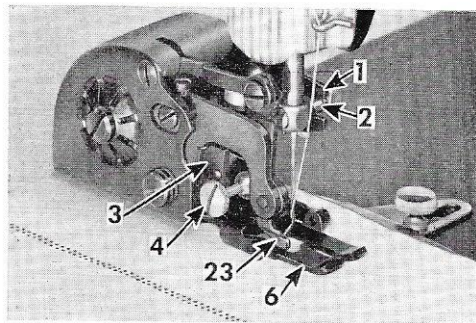

Fig. 2
3. Fasten attachment to presser bar by means of screw (4, Fig. 2), at the same time placing fork (1), astride needle clamp (2). If necessary replace needle clamp with one having a round shoulder. The thread eyelet of needle clamp or needle bar must be positioned clear of driving fork (1) so that fork can operate freely. Remove thread cutter if it interferes with operation of attachment.
5. Then press attachment against feed cover plate so that entire bottom surface of feeding foot (6, Fig. 2) rests evenly on plate. Perfect work can be produced only when foot rests flatly on feed cover plate. To determine correct setting of foot, place a piece of thin paper under it and pull paper to make certain that entire bottom surface of foot is bearing uniformly on paper.
6. After foot is correctly positioned, retighten screw (8), being careful not to shift the attachment or loosen the housing of support (3, Fig. 2).